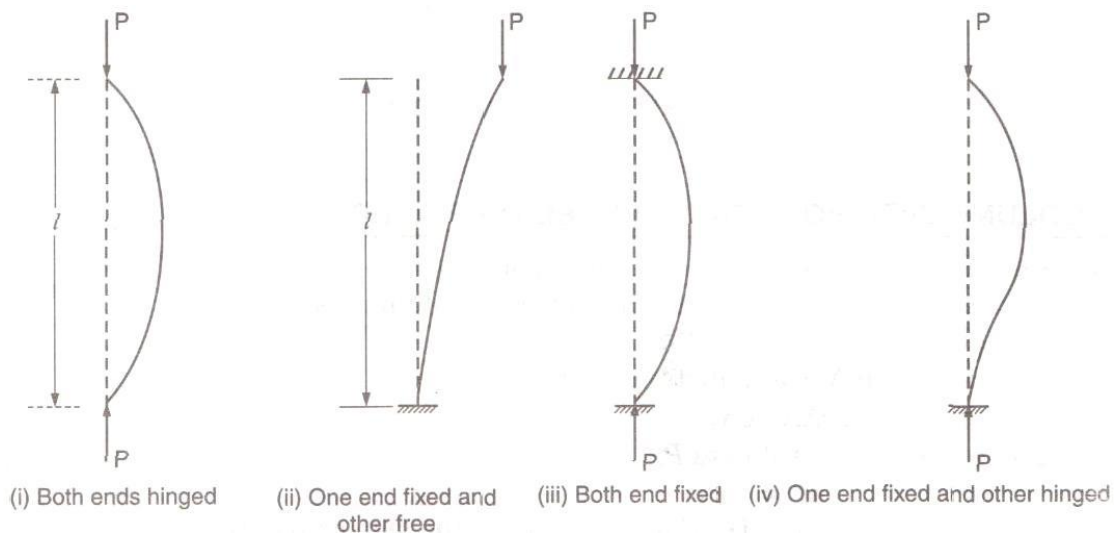

Fig.4.2
- (a) Both the ends hinged [Fig. 4.2(i)]
- (b) Both the ends fixed [Fig. 4.2(ii)]
- (c) One end fixed and other end hinged [Fig.4.2(iii)]
- (d) One end fixed and other free [Fig.4.2(iv)]